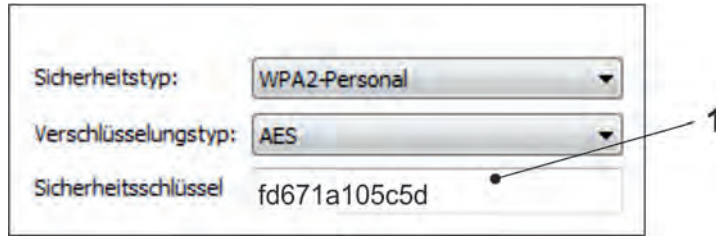

Fig. 30-22 Enter security key and connect
4. Enter security key (password) (delivery status = PUK; here fd671a105c5d as example) (Fig. 30-22 Pos. 1) and connect.